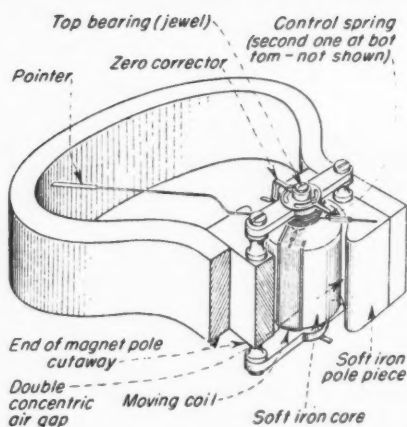

FIG. 3—Permanent-magnet moving coil mechanism.
3. Permanent Magnet Moving Coil Type. (Fig. 3)